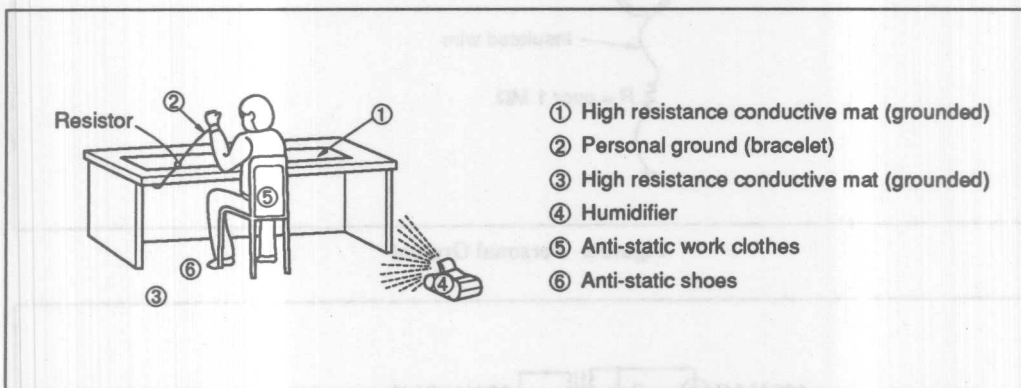

Figure 1 Static Electricity Countermeasures for Semiconductor Handling
2. Ground all instruments, conveyors, work benches, floor mats, tools, and soldering irons to prevent the accumulation of static charges. Lay conductive mats (with a resistance on the order of  $10^9 \Omega$  to  $10^{11} \Omega$ ) on workbenches and floors and ground them. (See figure 1.)